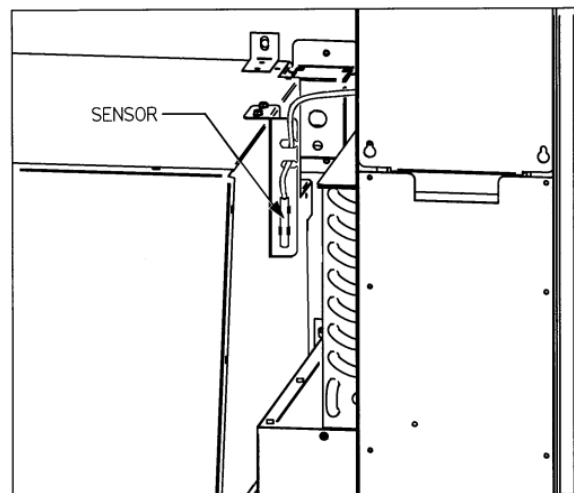

Figure 8.4 Temperature Sensor
4. The sensor is mounted to its bracket using two spring clamps (See **Figure 8.4** below). To remove it, first unwrap the sensor wire from the two slots in the bracket, and then slide the sensor out of the two spring clamps.